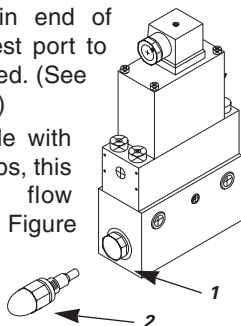

Figure 5
1. Remove plug in end of sub-plate nearest port to be flow controlled. (See Figure 5, No. 1.)
2. Screw in throttle with hand until it stops, this is maximum flow restriction. (See Figure 5, No. 2.)
- Figure 5**